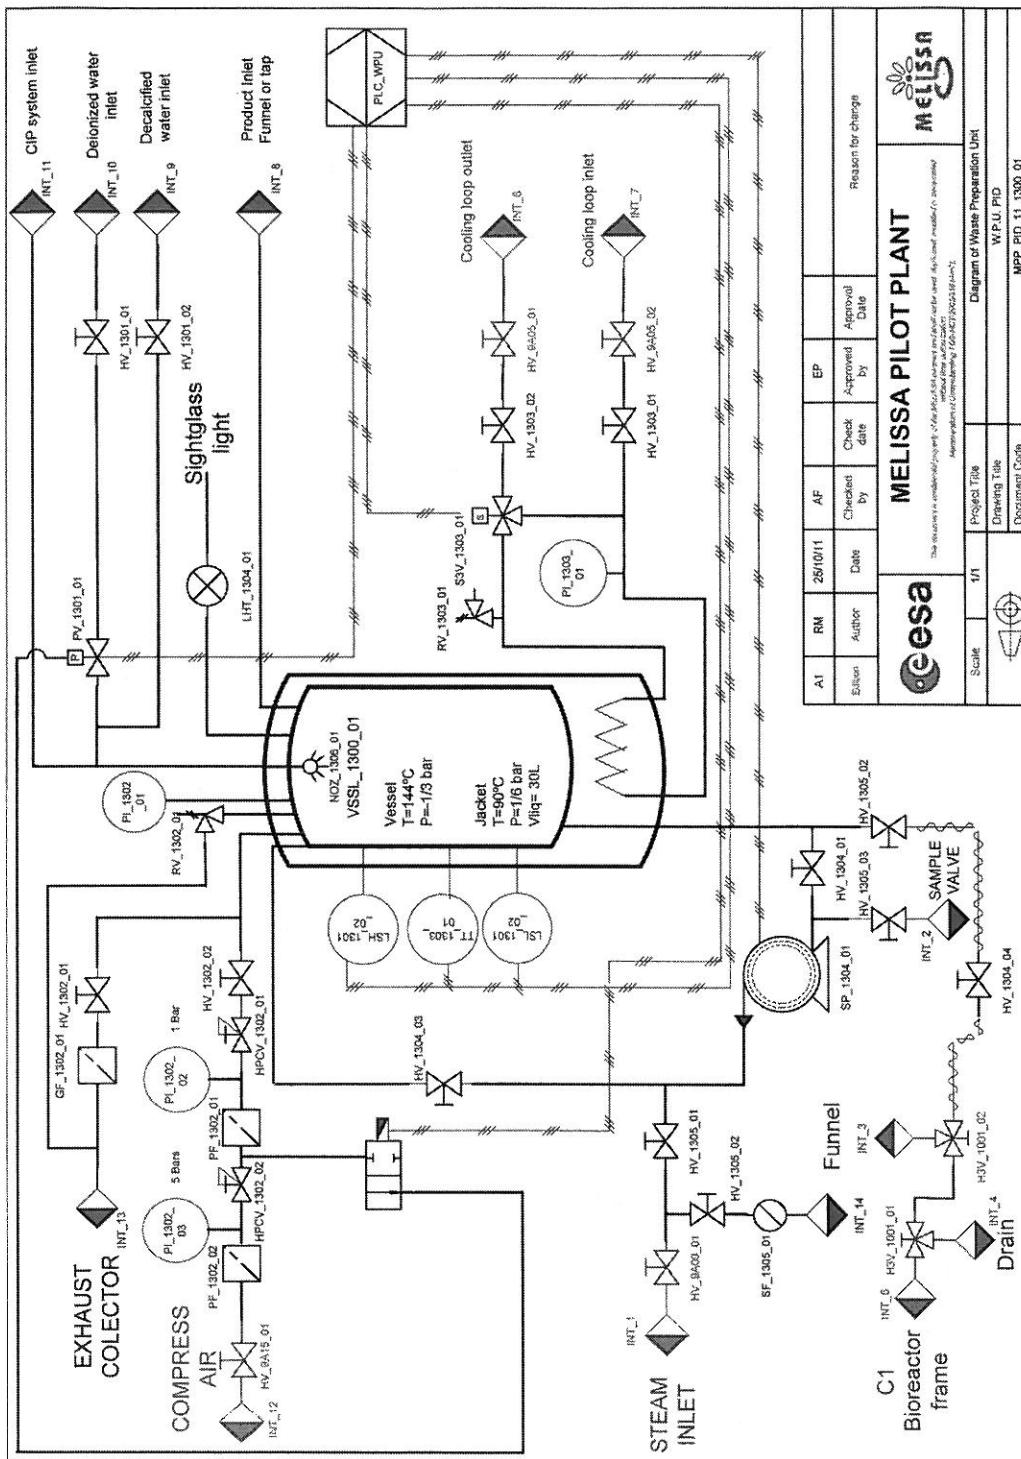
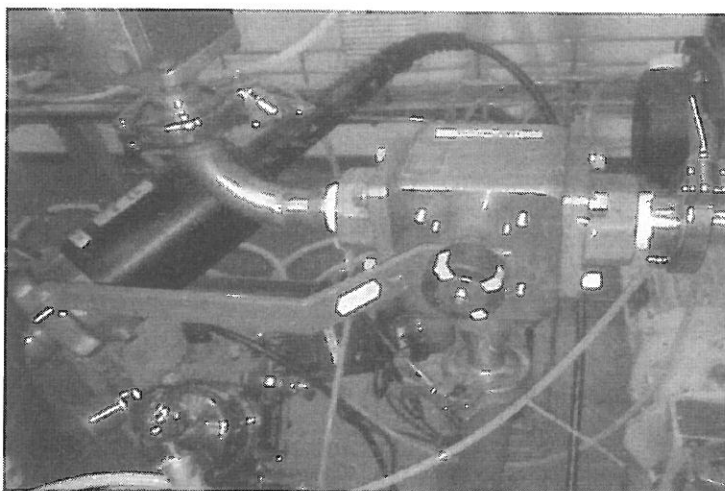

Fig. 4. P&ID of the Waste Preparation Unit
Fig. 5. Position of the three-way valve H3V\_1001\_01 for feed transfer from the WPU to the Influent tank.
- 10.3. Verify that the drain bottom manual valve HV\_1305\_02 of the WPU closed (see figure 4).
- 10.9. Verify that the pressure indication in gauge PI\_1302\_03 is 0.4-0.5 MPa. Otherwise adjust the pressure, opening or closing the pressure regulator HPCV\_1302\_02 (see figure 4).
- 11.1. Open the drain bottom manual valve HV\_1305\_02 (see figure 4). Verify that the manual valve HV\_1304\_04 is opened and that the three-way manual valve H3V\_1001\_01 is in the correct position for transfer (see figure 5).
- 11.2. Close the exhaust manual valve HV\_1302\_01 (see figure 4).
- 11.3. Verify that the pressure indication in gauge PI\_1302\_02 is about 0.1 MPa (1.0 bar) (see figure 4). Otherwise, adjust the pressure by opening or closing the pressure regulator HPCV\_1302\_01 (see figure 4) until a pressure of 0.1 MPa is reached.
- 11.6. Open the manual valve HV\_1302\_02 (see figure 4), and control visually the pressure increase in WPU vessel at gauge PI\_1302\_01 (see figure 4).
- 11.12. Close the manual valve HV\_1302\_02, open the hand exhaust valve HV\_1302\_01 and wait until the pressure at gauge PI\_1302\_01 in WPU vessel indicates 0 bar (see figure 4).
- 11.13. Close the bottom valve HV\_1305\_02 (see figure 4).
- 12.3. Fill the WPU with decalcified water by opening the manual valve HV\_1301\_01 (see figure 4) until a reading of 40 kg is reached in the weight controller display (see figure 3).
- 12.19. Verify that the pressure indication in gauge PI\_1302\_01 is between 0.5 and 1.0 bar (see figure 4). Otherwise, it is necessary to adjust the pressure opening or closing the pressure regulator HPCV\_1302\_01 (see figure 4), to reach that range.
- 12.20. Make sure that the flexible drain line from the three-way manual valve H3V\_1001\_01 (see figure 4) is well fixed to the drain collector.
- 12.21. Open the manual valve HV\_1305\_02 (see figure 4) and verify that the neutralized cleaning solution is transferred by the gas pressure circulating through the feed line until the drain system.
- 12.22. When the complete volume of the neutralized cleaning solution has been discharged, close the manual valve HV\_1302\_02 and open the exhaust hand valve HV\_1302\_01 (see figure 4).
- 12.23. Close the bottom manual valve HV\_1305\_02 (see figure 4).
- 12.24. Fill the WPU with decalcified water by opening the manual valve HV\_1301\_01 (see figure 4) until a reading of 100 kg is reached in the weight controller display (see figure 3).
- 12.26. Open the compressed air supply valve HV\_1302\_02 and verify that the pressure indication in gauge PI\_1302\_01 is between 0.5 and 1.0 bar (see figure 4). Otherwise, it is necessary to adjust the pressure by opening or closing the pressure regulator HPCV\_1302\_01 (see figure 4), to reach that range.
- 12.27. Open the manual valve HV\_1305\_02 (see figure 4) and verify that the rinsing water is transferred through the feed line, until the drain system.